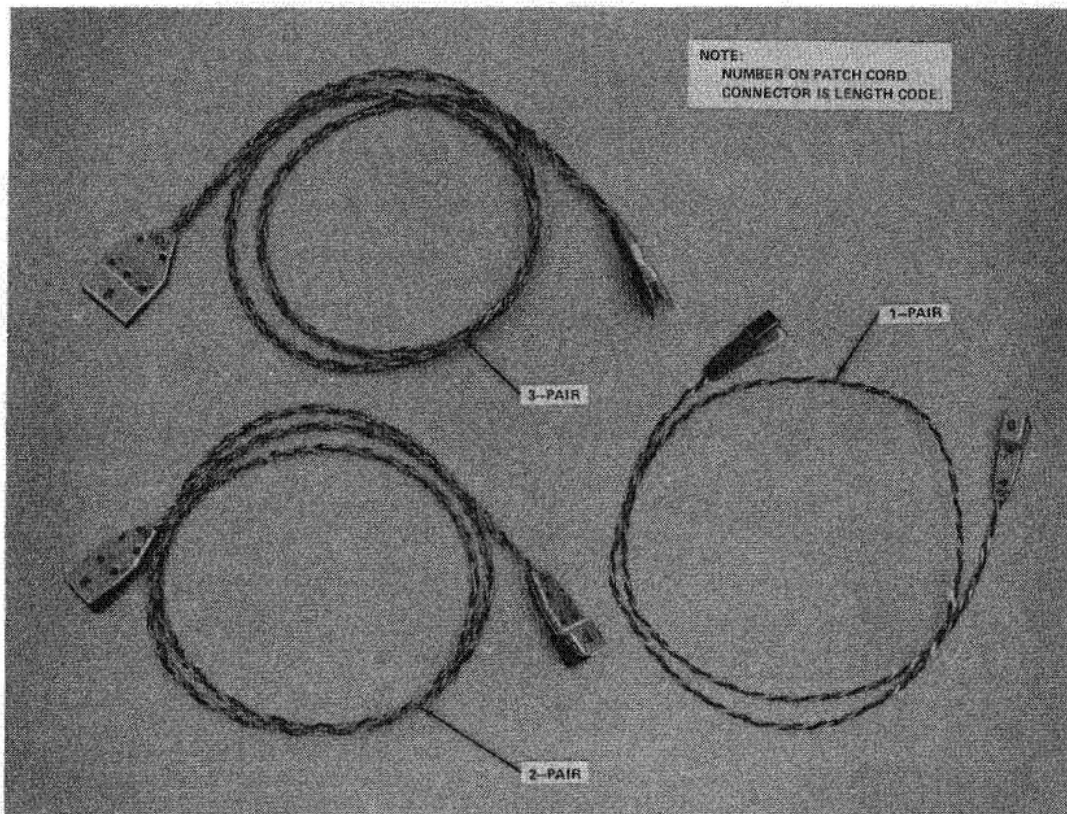

Fig. 9—88P-Type Patch Cords
**2.12** The 88P-type patch cords (Fig. 9) are intended primarily for use with the Customer Administered Terminal Move Service (CATMS), but may have applications with other installations of 88-type wiring and connecting blocks. They are available with 1, 2, or 3 pairs in fifteen discrete lengths from 25 to 235 centimeters. Stranded 24-gauge wire with PVC insulation is used. Attached to each end of the patch cord is a fire-resistant plastic connector which plugs into an 88-type connecting block mounted on the front of a wiring block. The connector is designed to fit over the teeth of the connecting block in such a way that pair alignment is maintained. The word "TOP" is visible on the white upper side of each connector to assure that leads are not reversed. The 88P-type patch cords are reusable and require no tools for installation or removal. A complete list of patch cords is contained in Table B.